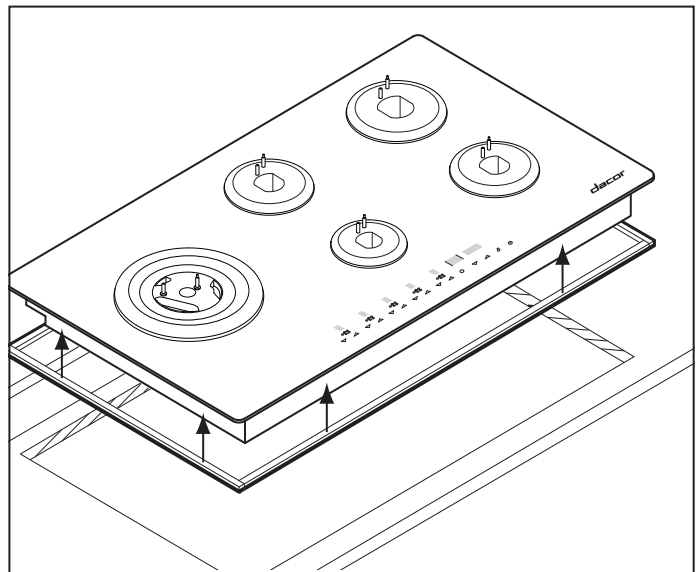

Figure Step 2:
2. Cut the seal into four (4) strips that run the length of the outer edges of the glass. Make sure the seal does not overlap the edge of the glass.
3. Peel and stick each strip to the outer edges of the glass, creating a frame of the foam seal (Figure Step 2).